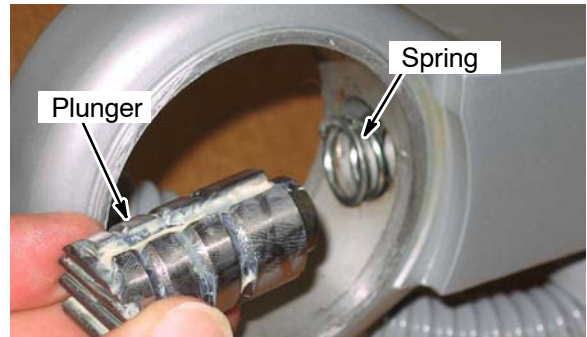

Fig. 9
- Remove the gear plunger w/spring from the handle (Figure 9). Discard the plunger and set the spring aside for reuse.